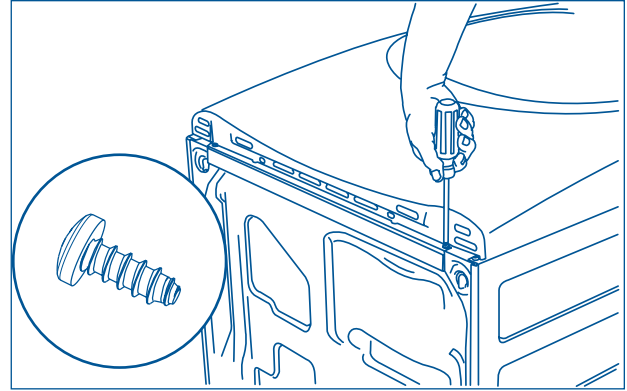

Figure 2-48.
3. With #2 square bit screwdriver, remove two front bracket screws and save for reinstallation. (See Figure 2-48)